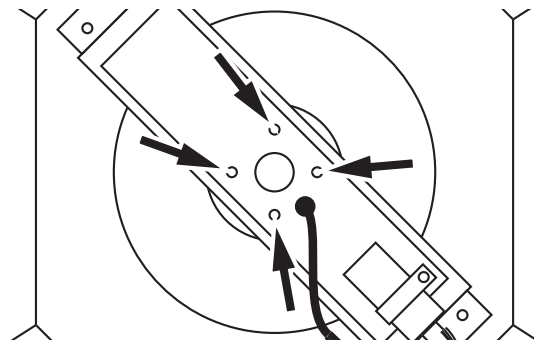

Figure 16.
- c. Separate the motor from the motor mount by removing the four screws found in figure 16.